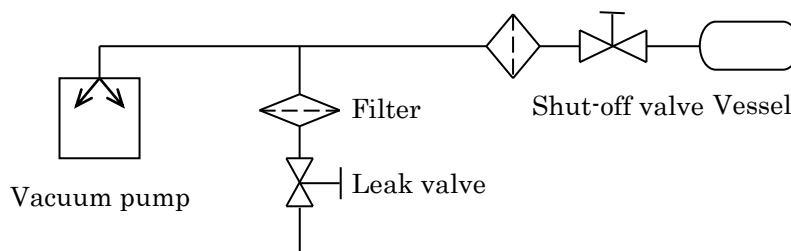

Fig.3.1 Example of Piping When discharging a Vessel
- 5) When discharging a vessel, ensure that a shut-off valve is placed between the pump inlet pipe and the vessel (see Fig.3.1).